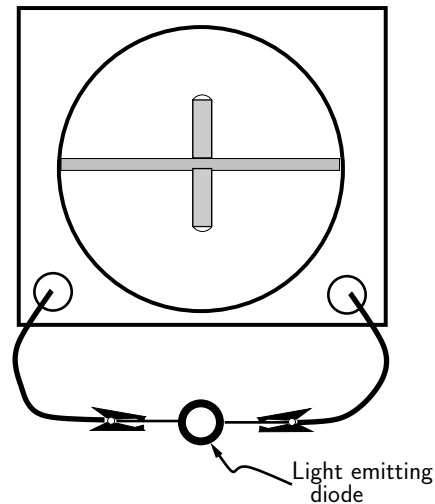

Figure 12.7: Simple generator. Magnets squeeze rubber band between them; coil is hooked up to a light emitting diode (LED).
2. Set things up as shown in Figure 12.7. Two magnets should be placed together so that they pinch the rubber band between them. Use a light emitting diode (LED) from your bench and hook it to your coil as shown. Twist the magnets around multiple times, which should wind up the rubber band as well. **Be careful about winding too much — if the magnets spin too fast they'll come flying apart!** Now, release the magnets and watch the LED. What do you see?